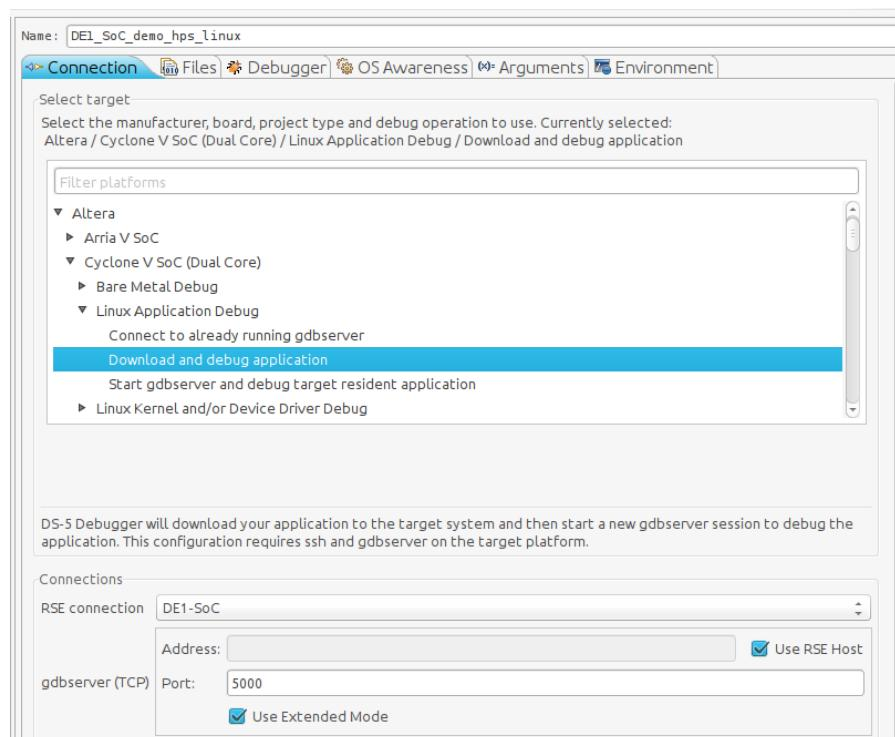

Figure 13-15. Debug Configuration "Connection" Tab
- b. Set the “RSE connection” to “DE1-SoC”. This is the remote system connection we created earlier. You should have something similar to Figure 13-15.